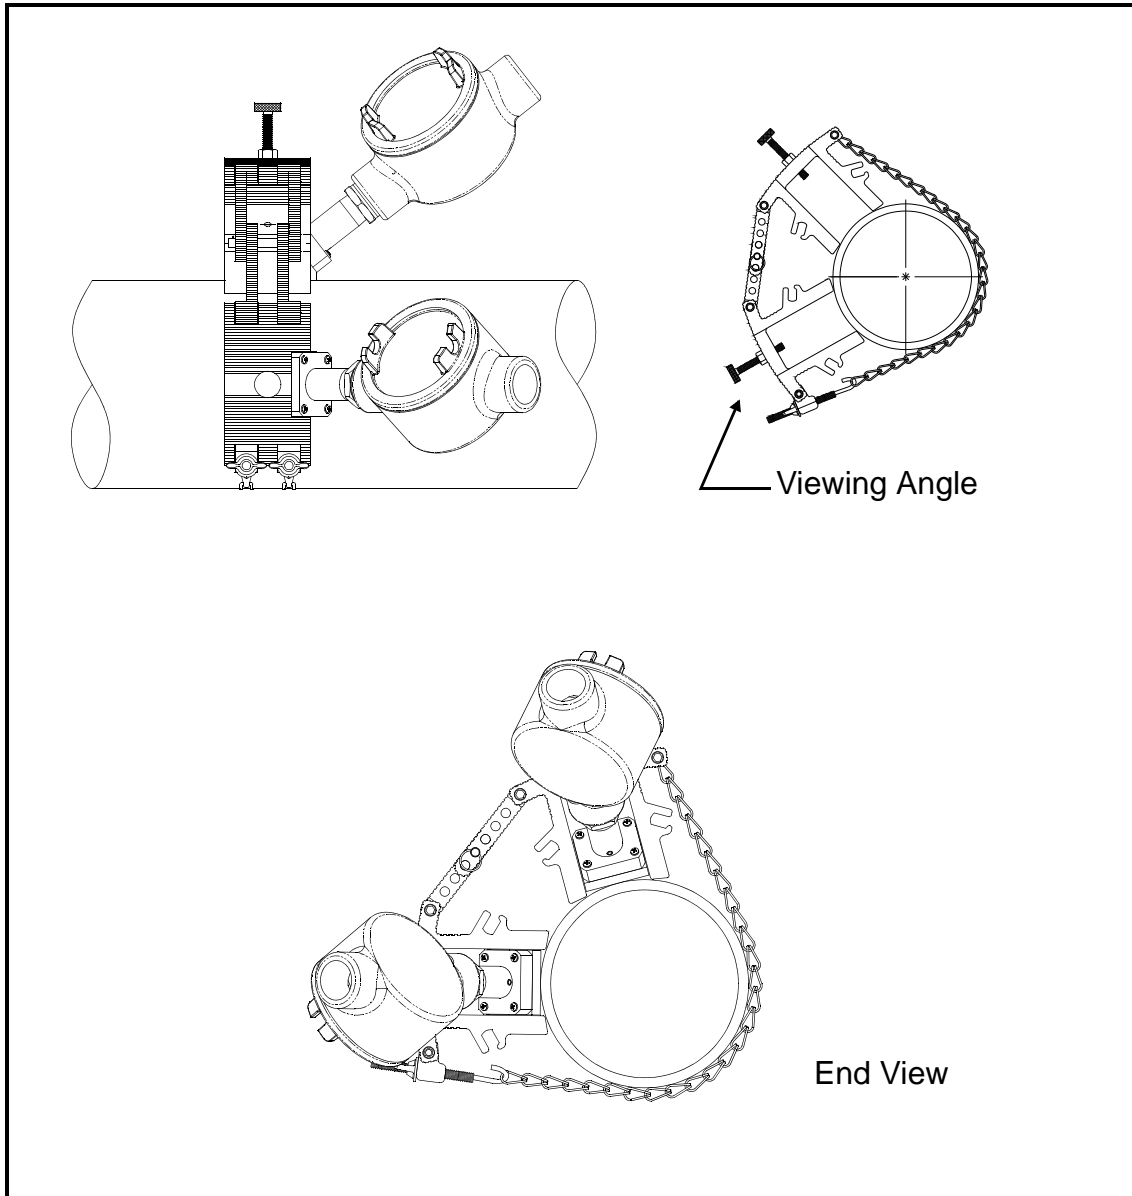
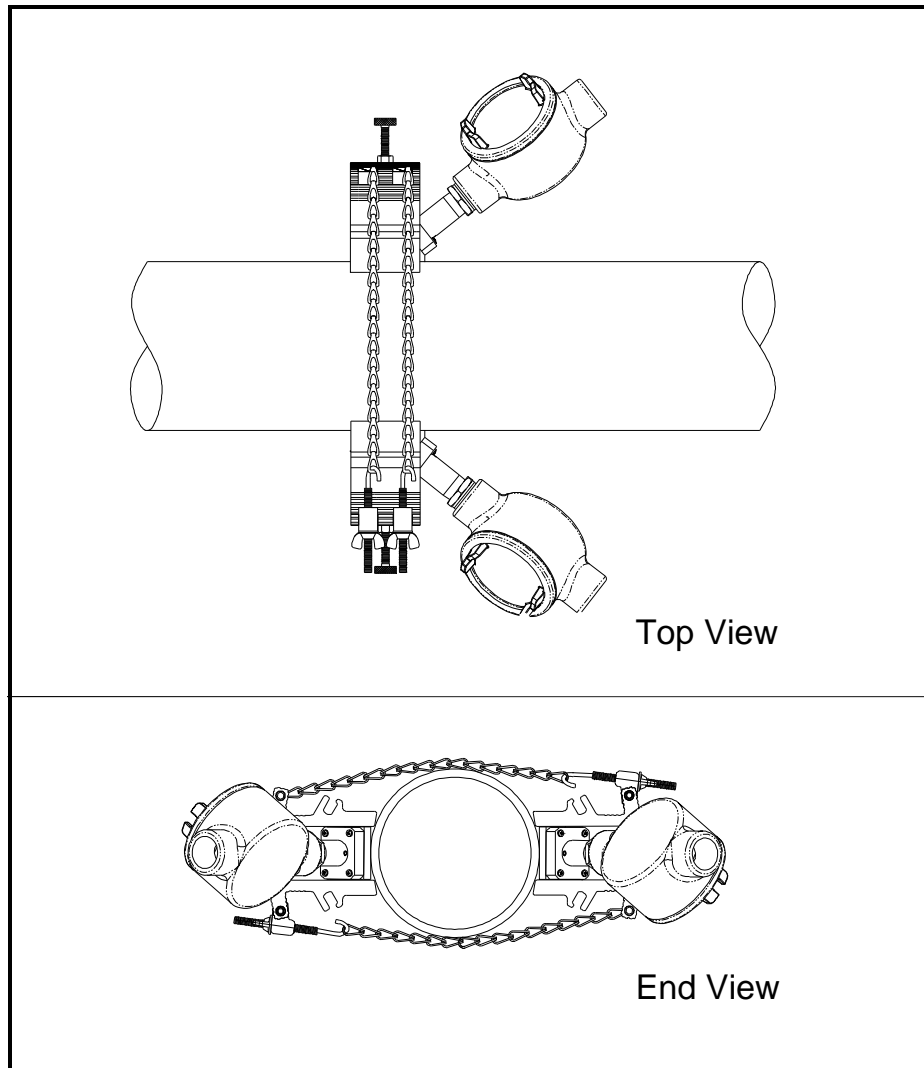

Figure 15: Examples of Completed TMCF Installations with Transducers in $<180^\circ$ Configuration
Figure 16: Examples of Completed TMCF Installations with Transducers in 180° Configuration
- Repeat steps 1 through 6 to insert the other transducer into the remaining block. Refer to Figure 15 on page 49 and Figure 16 on page 50 for examples of completed installations. When inserting the second transducer, make sure the transducers face the same direction.